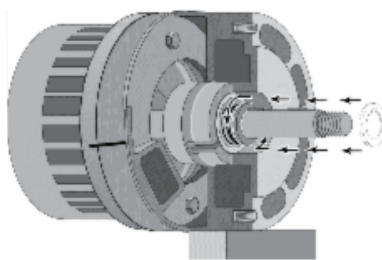

Figure 23
6. Push the shaft seal and seal spring onto the shaft, after making sure that the seal faces and shaft are clean. Take care that the shaft should not damage the carbon seal face. Follow the seal spring with the spring holder; compress the spring and give the spring holder a quarter turn to lock it under the first shaft key (see Figure 23).